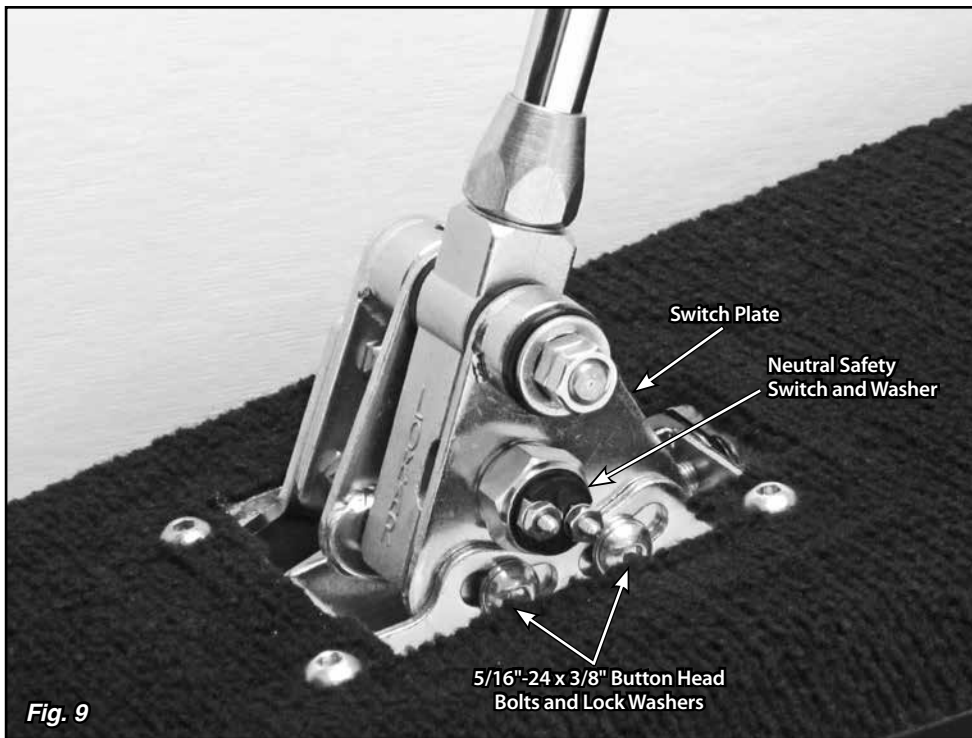

Fig. 9
Step 14: Remove the neutral safety switch and washer (**Fig. 9**) from the passenger side of the Shifter using a 7/8" wrench or socket.
Step 15: Loosen, but do not remove, the two 5/16"-24 x 3/8" button head bolts and lock washers that attach the passenger side of the floor mount mounting bracket to the switch plate (the bolts are in curved, slotted holes). **Fig. 9**